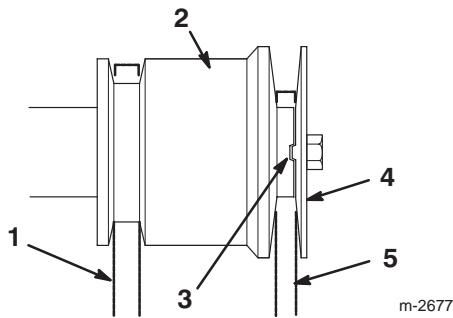

Figure 33
Note: Do not to pinch the traction drive belt (Fig. 33).
15. Install the engine pulley sheave, ensuring that the indexing rib in the engine pulley sheave aligns with the indexing notch in the engine pulley (Fig. 33).
16. Install the washer, lock washer, and crankshaft screw that secures the engine pulley sheave (Fig. 33).
- Note:** Do not pinch the auger/impeller drive belt (Fig. 33).
Note: Ensure that the indexing rib in the engine pulley sheave aligns with the indexing notch in the center engine pulley. Do not pinch the belt (Fig. 33).